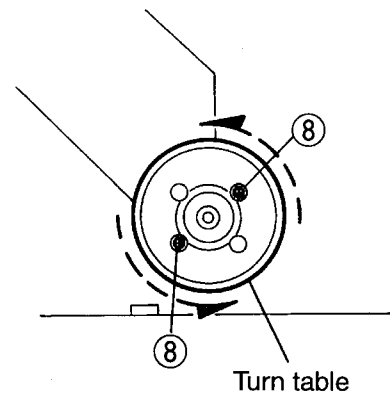

Fig.25
2. While turning the turn table, remove the two screws ③ retaining the spindle motor and take out the spindle motor (See Fig.25).